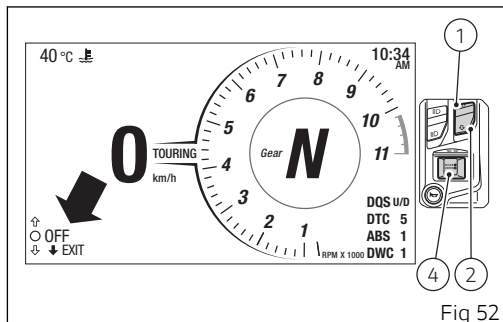

Fig 52
Pressing button (4) you view heated handgrip current setting ("OFF", "LOW", "MEDIUM", "HIGH") and the black arrow down followed by "EXIT" (Fig 52).